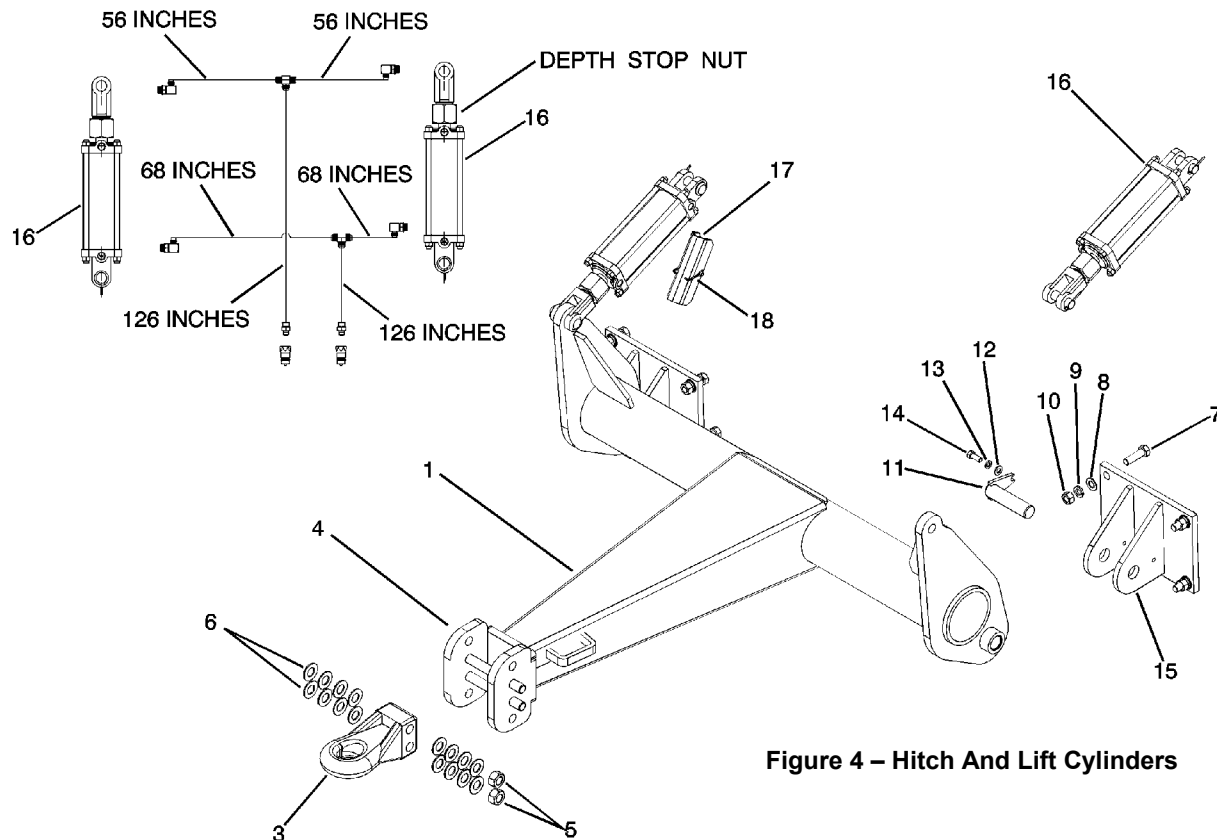
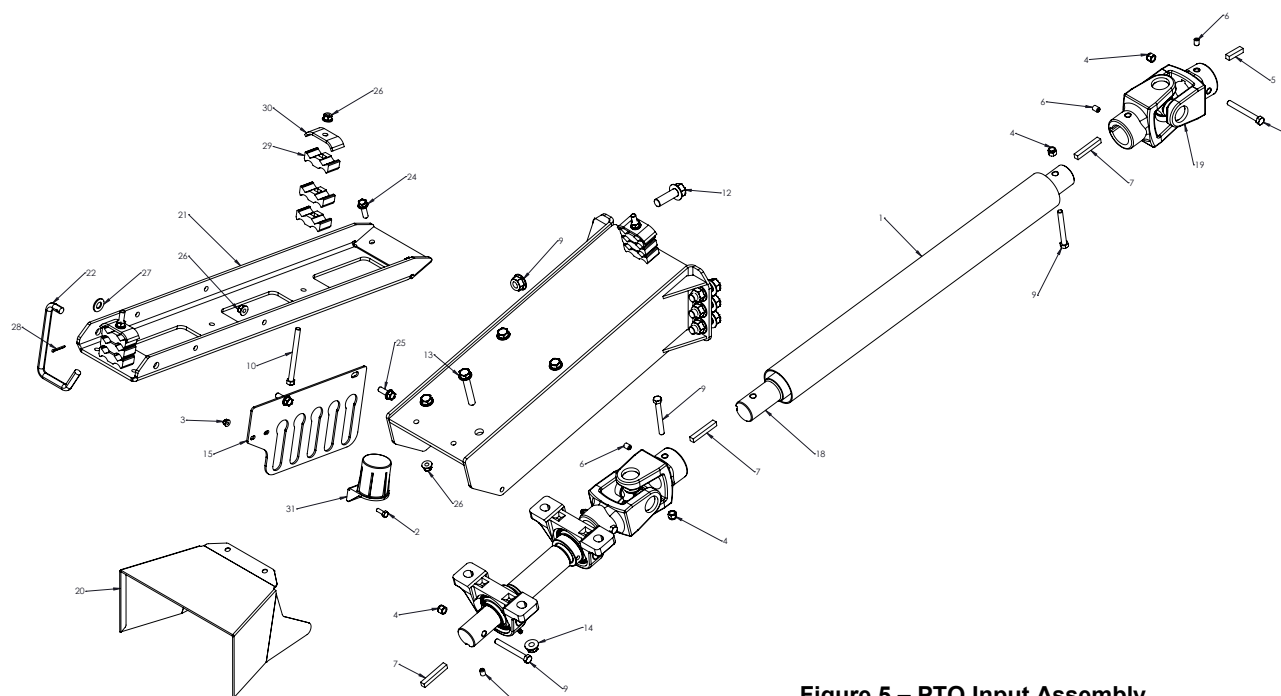

Figure 4 – Hitch And Lift Cylinders
Figure 5 – PTO Input Assembly
(See Figure 4).
(See Figure 5).
5. Install the PTO shield (20) and support (21) to the front of the jack shaft support and secure using 3/8 X 1-1/4 HFH and flange-nylock-nuts (24, 26).
6. Install PTO mount hook (22) and secure with 1/8 X 1 inch cotter pin and flat-washer (27, 28).
7. Install hose hanger (15) and storage holder (31) and secure with 3/8 X 1 HFH, 1/4 X 3/4 HHCS, and nyloc-nuts (2, 3, 25, 26)
8. Plumb to hydraulic cylinders as shown in Figure 4 and Figure 5. Secure with hose clamps (29), hose clamp bar (30), 3/8 X 3-1/4 HHCS, and flange-lock-nut.